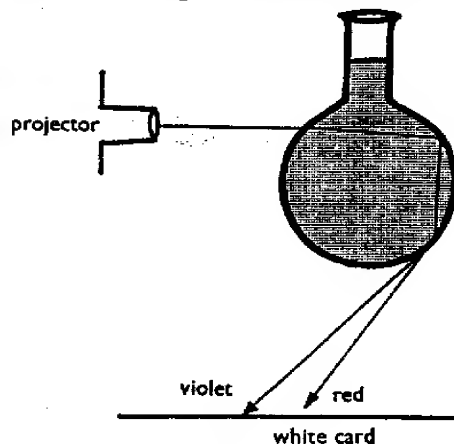
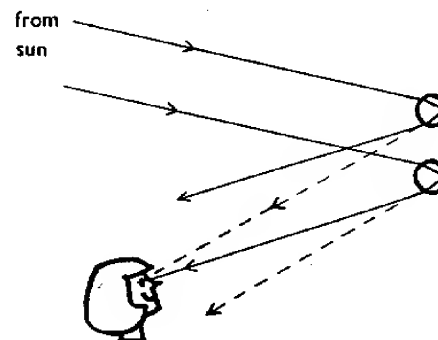

Fig. 224
Fig. 225
You can see how a rainbow produces its spectrum of colours by studying this model (Fig. 224). Fill a spherical flask with water, and
add a few drops of liquid Lux and a very small quantity of fine aluminium powder to enable you to see the path of the beam through the water. Now make a very narrow slit by inserting two pieces of black paper in a slide holder and place the slide with the slit horizontal in a projector. Focus the projector to produce a clear image of this slit at the flask, and project a flat beam of light through the flask as shown in Fig. 224. A 'rainbow' can then be formed on a sheet of paper placed below the flask.
You might think from Fig. 224 that the red part of a rainbow should be *below* the violet. This is not, however, what is normally seen. *Can you explain from Fig. 225 why the red part is uppermost? (21) Remember that a real rainbow is formed by thousands of tiny water drops.*